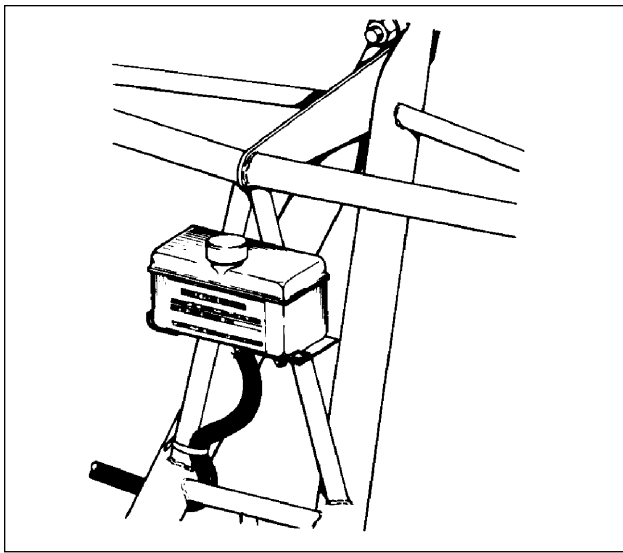

Figure 32-21. Brake Reservoir Bleeding
(2) Pressure (Refer to Figures 32-21 and 32-22)